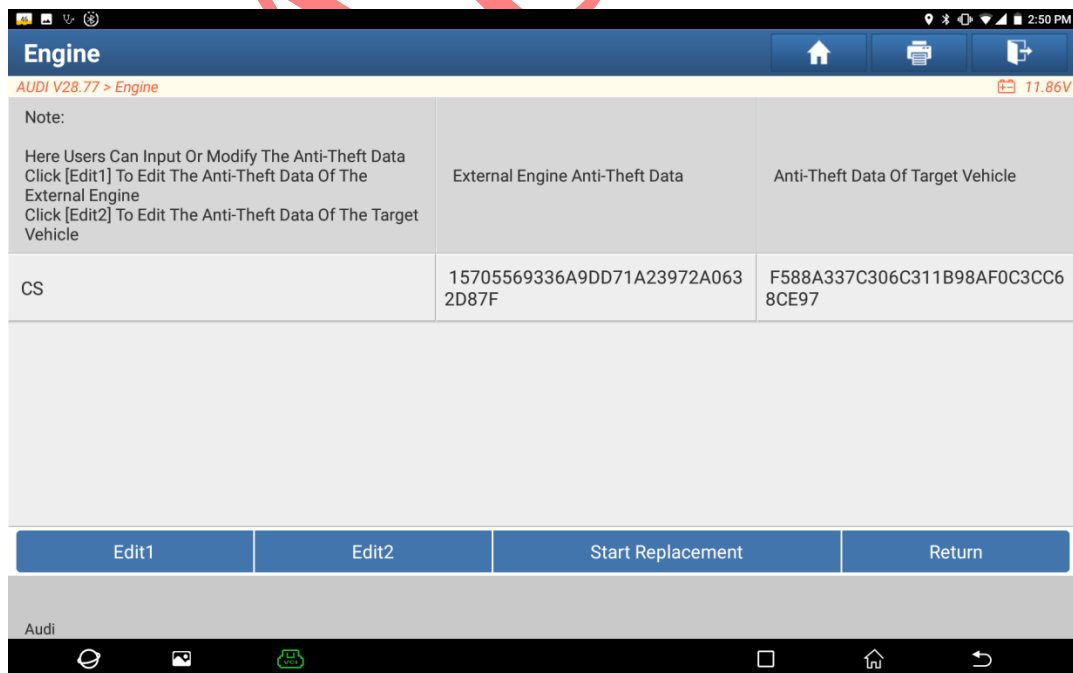
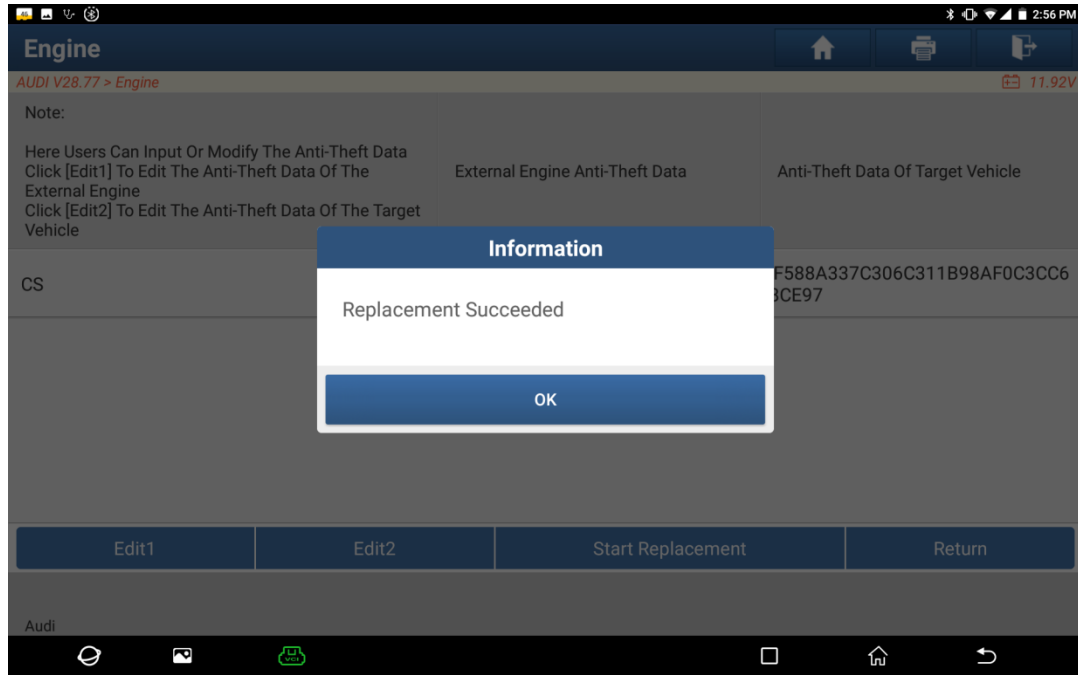

Figure 15
Figure 16
13. At this time, both of external engine ECU data and original vehicle data are successfully read, as shown in Figure 15. Click **【Start Replacement】**, the process is successfully performed, and the external engine has synchronized with the original vehicle anti-theft data, as shown in Figure 16;